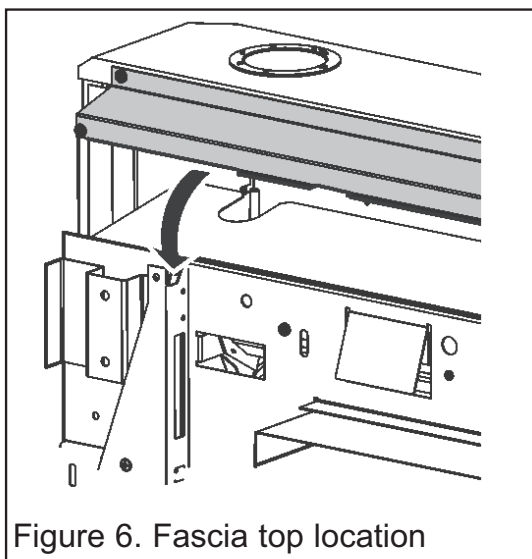

Figure 6. Fascia top location
10. Place the fascia over the engine. Make sure that the top rear of the fascia locates fully into the 'U' shaped notch of the engine back panel (See figure 6).